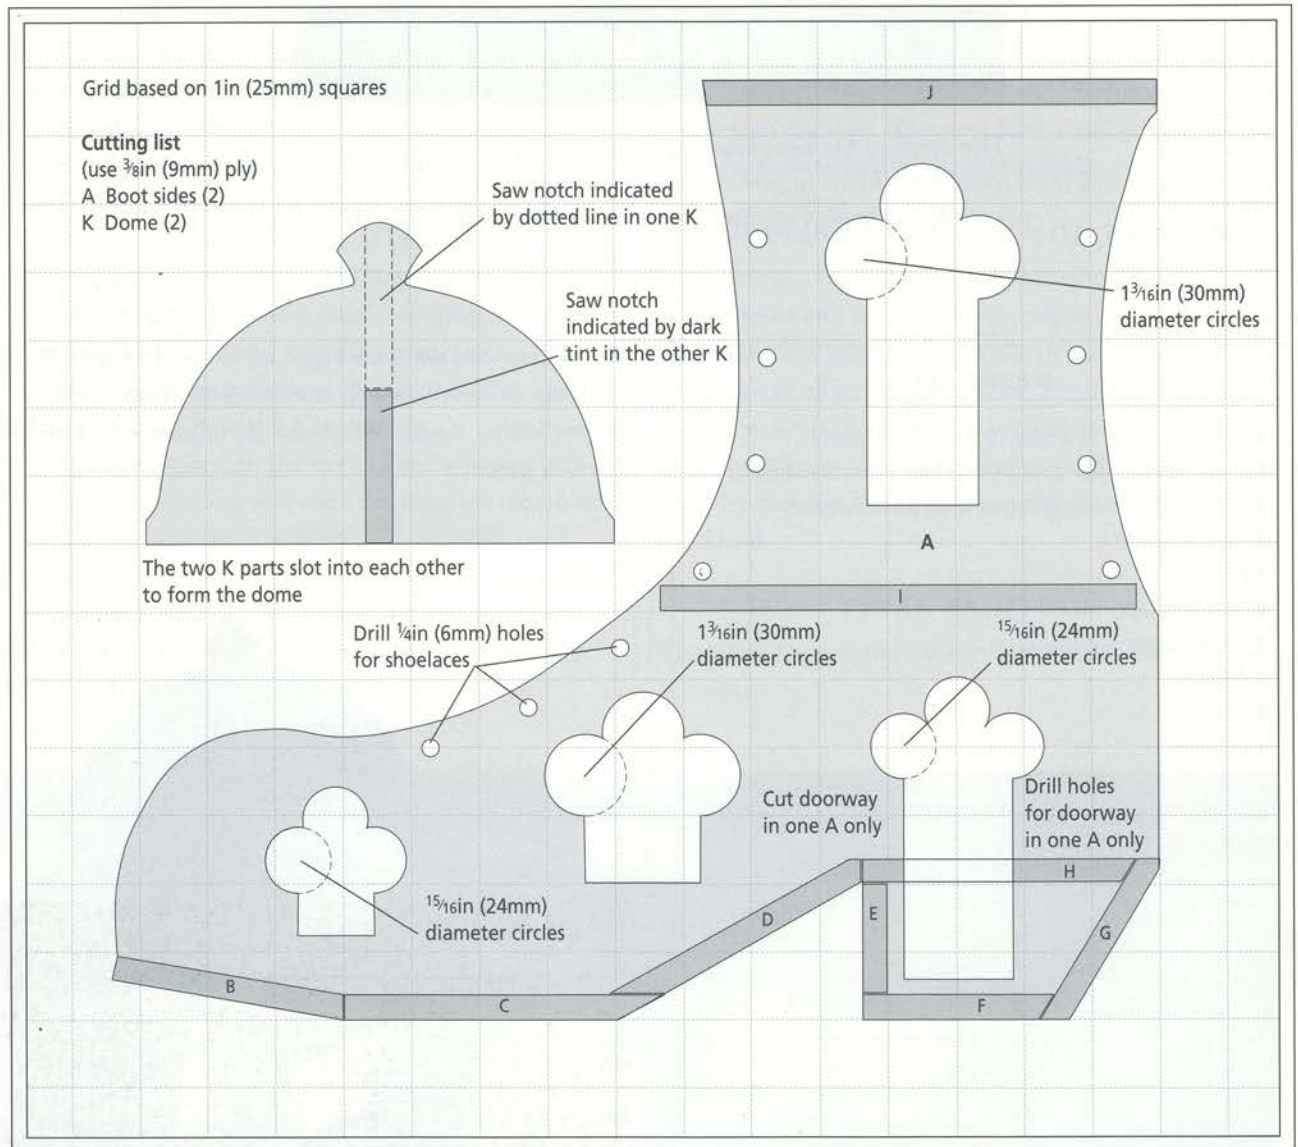
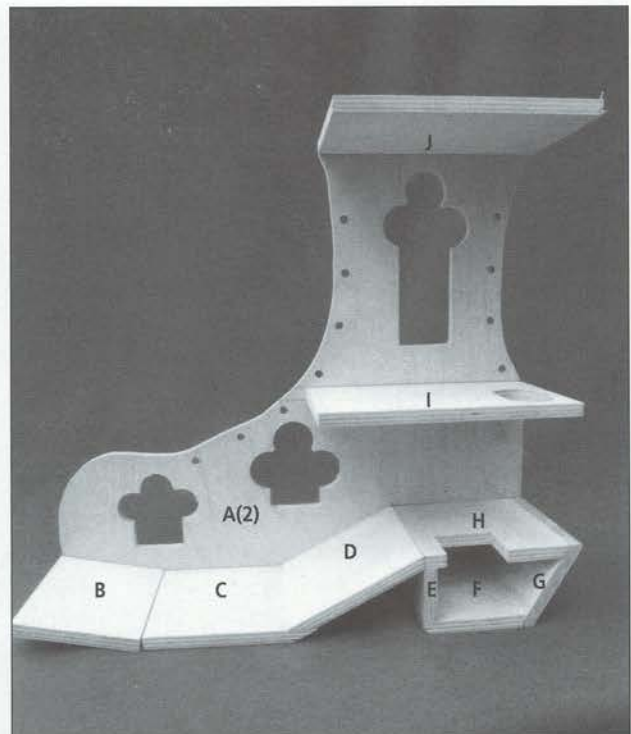
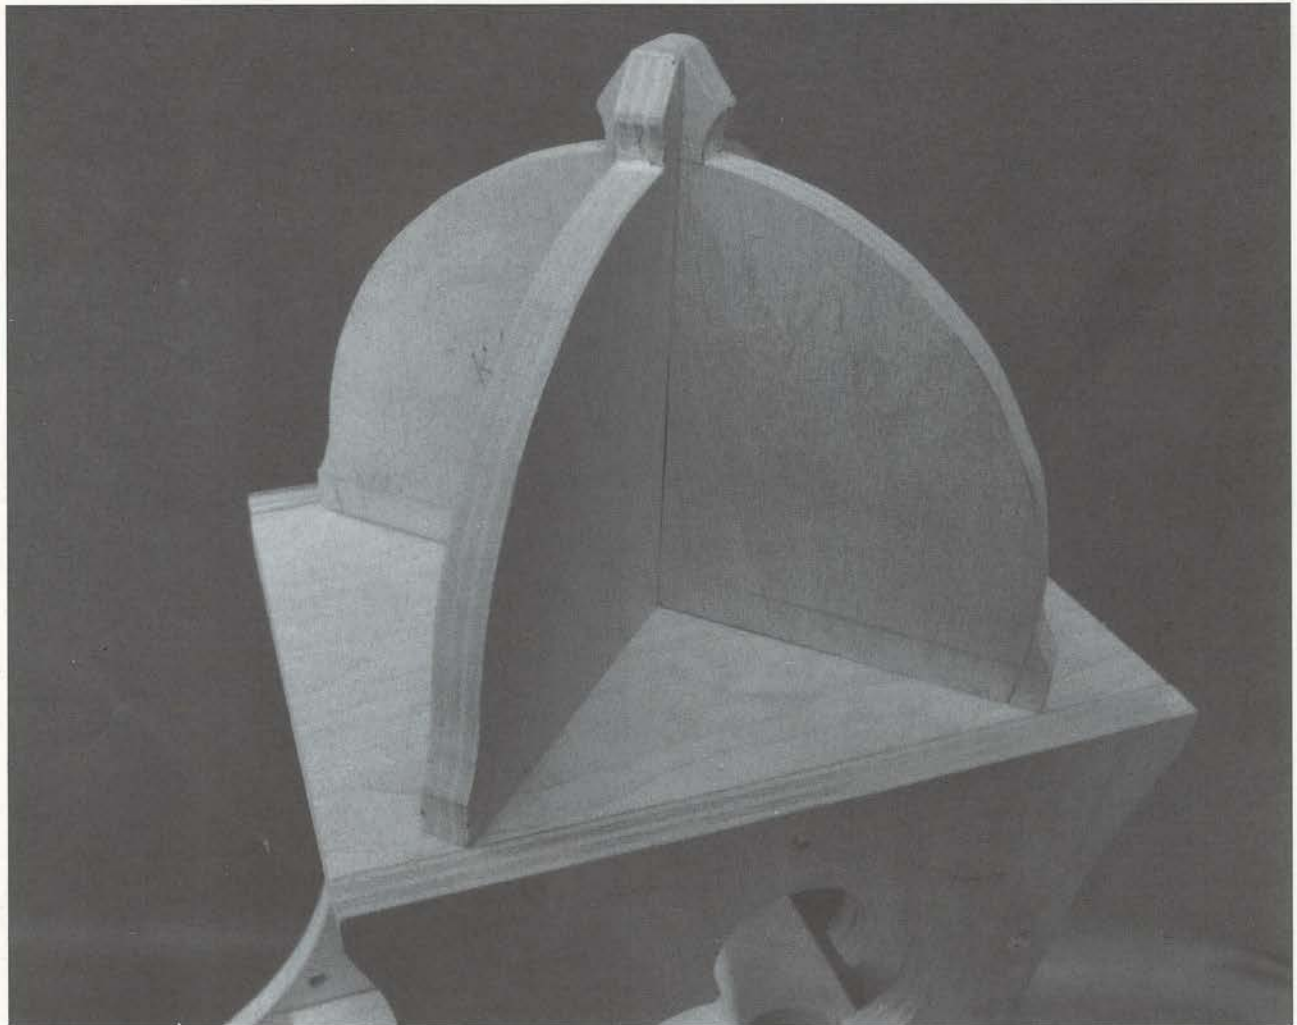
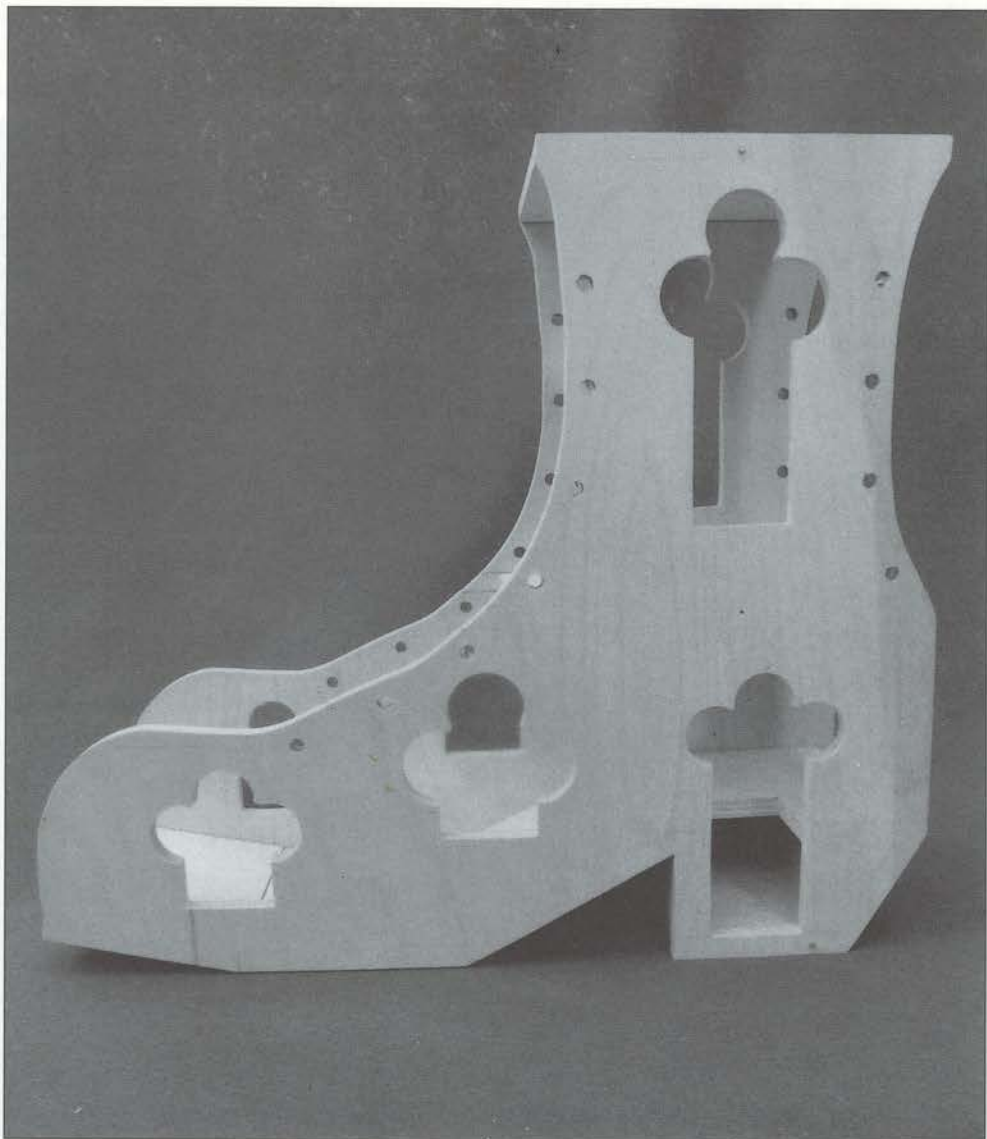

Fig 11.1 Use a grid to transfer shapes A and K to ply. Locations of parts B–I are shown.
Fig 11.4 The positions of the parts that make up the sole and heel, and parts I and J.
Fig 11.5 The two K parts slot together to form the dome.
Fig 11.7 But for the wooden 'shoelaces' and the dome, the boot house is completely assembled.
Familiarize yourself with Figs 11.1–11.3. The toy is made up of eleven shapes, labelled A–K. Two of the shapes will be duplicated (A and K) to give a total of thirteen parts.
Make a grid with 1in (25mm) squares. Draw shapes A and K on the grid following the plan at Fig 11.1. Trace the shapes onto the plywood. Try cutting out parts A and K in duplicate; there will be much drilling and sawing, especially in parts A, and cutting in duplicate will save a lot of time and will ensure accuracy. If you will be sawing out the shapes in duplicate you will only need to trace each shape once. If you are going to saw out each shape separately, trace two each of A and K onto the ply.
A note about parts K: Fig 11.1 shows slots to be cut in the two parts. Don't bother marking the positions of the slots for now. This will be taken up in a later step.
Separate the two K parts and remove the panel pins with a pair of pliers (the pin holes will be filled later). Refer to Fig 11.1. Notice that the two parts will fit together in an interlocking arrangement (see also Fig 11.5). Mark the position of the lower slot on one part K and the position of the upper slot on the other part K. Then saw out these slots with a coping or fret saw. A fine blade will be useful for turning the sharp corners of the slots.
Notice in Fig 11.1 the doorway in the boot near the heel in part A. This doorway is to be cut in one side of the boot (A) only. Do not drill the three holes for the doorway at this time. You should, however, drill the other nine $1\frac{5}{16}$ in (24mm) and $1\frac{3}{16}$ in (30mm) holes as well as the eleven $\frac{1}{4}$ in (6mm) holes in the stacked A parts.
Separate the two A parts and remove the panel pins with a pair of pliers. Take up one part A and drill the three holes for the doorway (see Fig 11.1).
Take up the part A in which you have just sawn the three holes. With a coping or fret saw, and cut out the rest of the final club shape. You now have one part A with a doorway and one without. Fig 11.4 shows the A that has no doorway and Fig 11.7 shows the A with the doorway.
Referring to Fig 11.1, mark the position of part I on the inner face of the two parts A.
Parts B–H make up the sole and the heel of the boot (see Figs 11.1 and 11.4). The parts butt up against each other at angles. These angles are achieved by filing.
Glue and pin the heel assembly to one of the A parts in the position shown in Fig 11.1. Then glue and pin parts B, C and D to the same side A as well. Again refer to Fig 11.1 for the positions of the parts and to Fig 11.4 for an example of the pinned and glued parts. Allow the assembly to dry. Then fill any slight gaps in the joints with wood filler. When the filler has dried, sand it level.
Glue and pin part I to the side of part A in the position you have marked from Fig 11.1. Glue and pin part J to the side of part A so that its upper surface is flush with the top edge of part A (see Fig 11.4). When the above assembly is completely dry glue and pin the remaining side A into position. The assembly is shown in Fig 11.7.
Take the two K parts that will form the dome. Apply a little glue to the edges of a notch and then slide the notches together to form the dome. The dome sits on top of the boot house as shown in Fig 11.5.